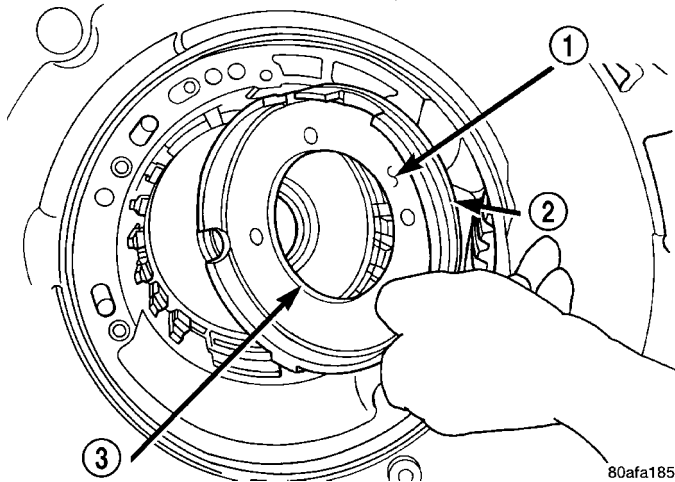

Fig. 79 Remove Low/Reverse Clutch Piston
(62) Remove low/reverse clutch piston (Fig. 79).